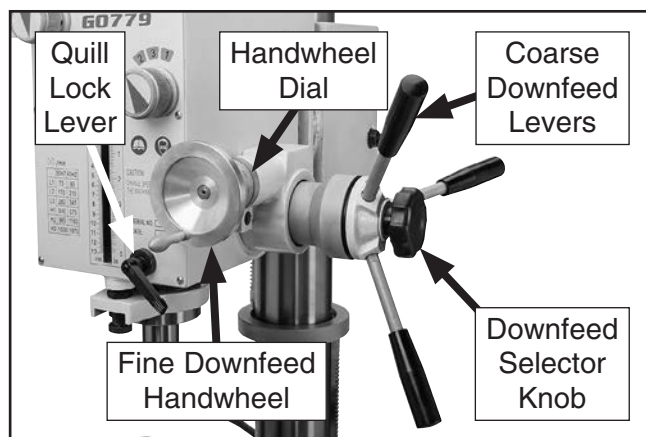

Figure 20. Downfeed controls.
Use the fine downfeed handwheel to control the spindle travel up or down in slow, small amounts. If necessary, you can lock the quill/spindle in a lower position with the quill lock lever (see **Figure 20**).
1. Tighten downfeed selector knob, shown in **Figure 20**. This transfers control from downfeed levers to fine downfeed handwheel.